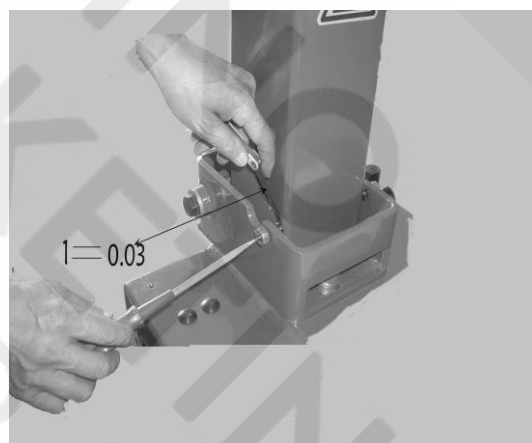

FIG12
3.2.9 Adjust the position screw on the two sides of the column: Loose the nuts on the two sides and adjust the gap between the head of the screw and the side of the column to make it to be 0.03mm (fig12) and then lock the nut.